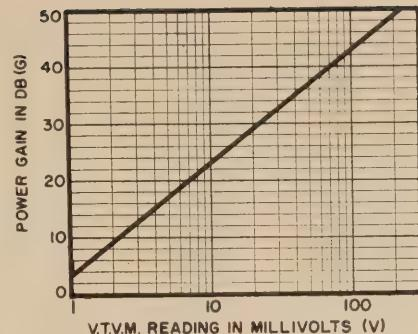

Fig. 9. Graph of Eqt. (6) used for obtaining equivalent power gain in db.
R_g should be adjusted for the maximum v.t.v.m. peak reading, and Fig. 9 referred to for equivalent power gain in db.
The graph in Fig. 9 was made from Eqt. (6).